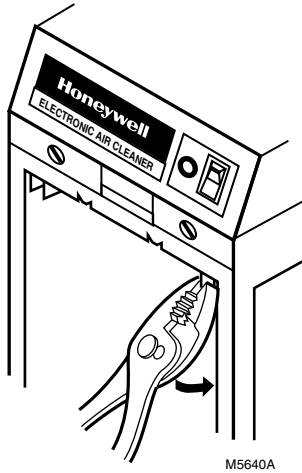

Fig. 14. Crimping prefilter guide.
- Crimp the end of the downstream (closest to the furnace) prefilter guide to prevent incorrect prefilter installation following cleaning. See Fig. 14.